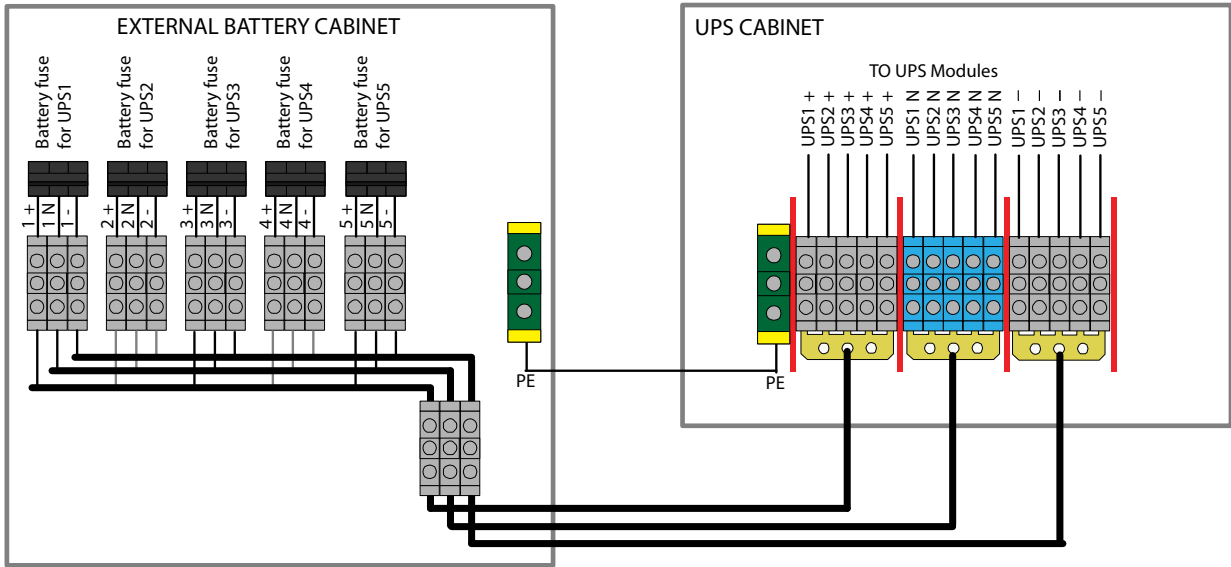

Figure 3.10 External battery cabinet wiring (5-module UPS cabinet shown)
These configurations are illustrated in Figure 3.9, which shows the alternative connections for internal batteries in a DPA-150 cabinet fitted with three power modules. Figure 3.10 shows an example of the alternative connections when using an external battery cabinet shown connected to a DPA-250 (5 module) cabinet.
1. Familiarise yourself with the wiring diagrams in Figure 3.10 and determine whether the installation is designed to use a common battery or individual battery